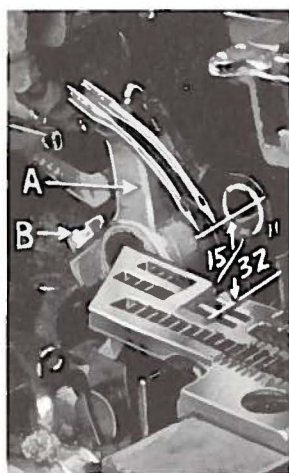

Fig. 3
With the throat plate in position, needles should center in the front end of needle slots. When needles are at high position, needle points should be set  $15/32$  inch above throat plate (Fig. 3). Move needle driving arm (A, Fig. 3), by loosening clamp screw (B). Remove the throat plate.